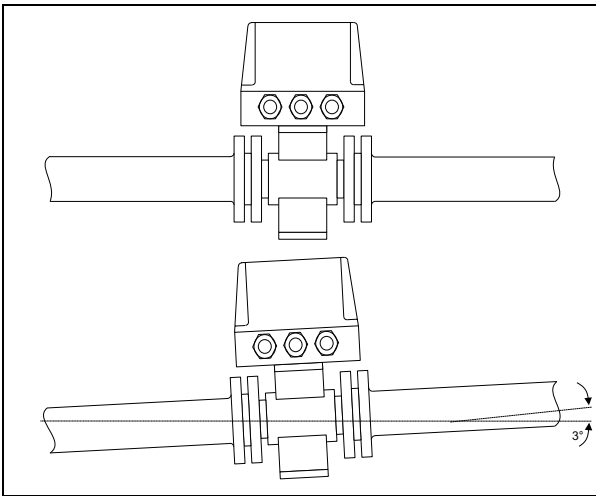

Fig. 3
- horizontal** pipelines the cable connectors (for the interconnections) must **point towards the operator** for best display readability (Fig. 3).
The flowmeter primary must be installed so that the meter tube is always completely filled with fluid and cannot drain. A slight upward slope of approx. 3 % is desirable to prevent gas build up within the flowmeter (Fig. 3).